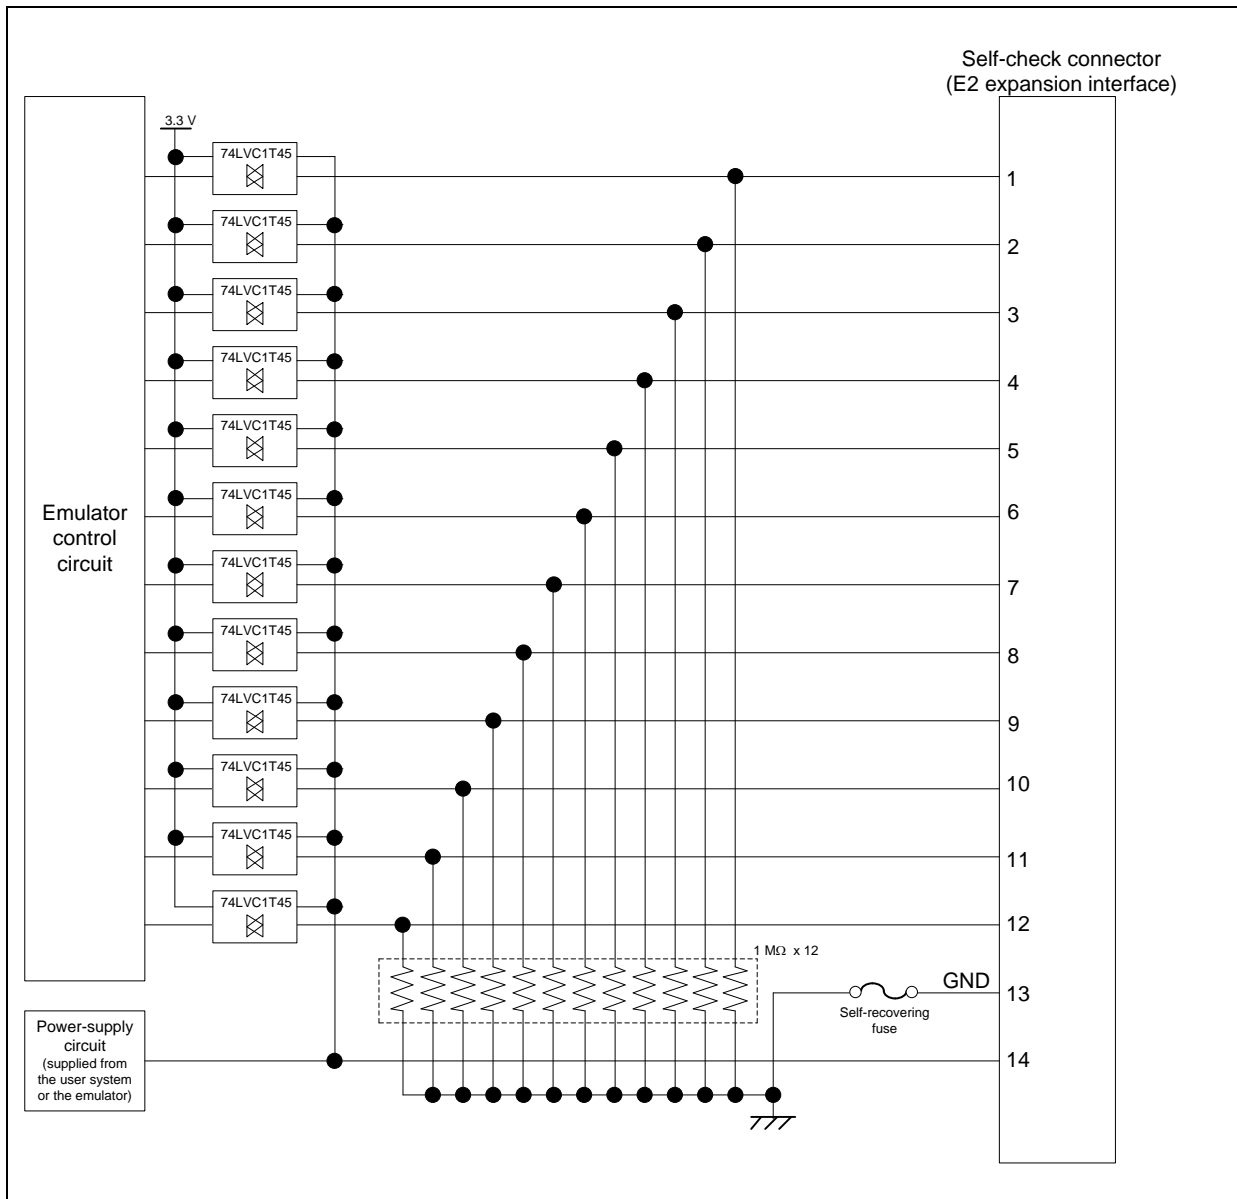

Figure B.2 Internal Circuits of the E2 Expansion Interface
*2: For the electrical characteristics of each pin, refer to Figure B. 2 and the data sheet of the product to be used.